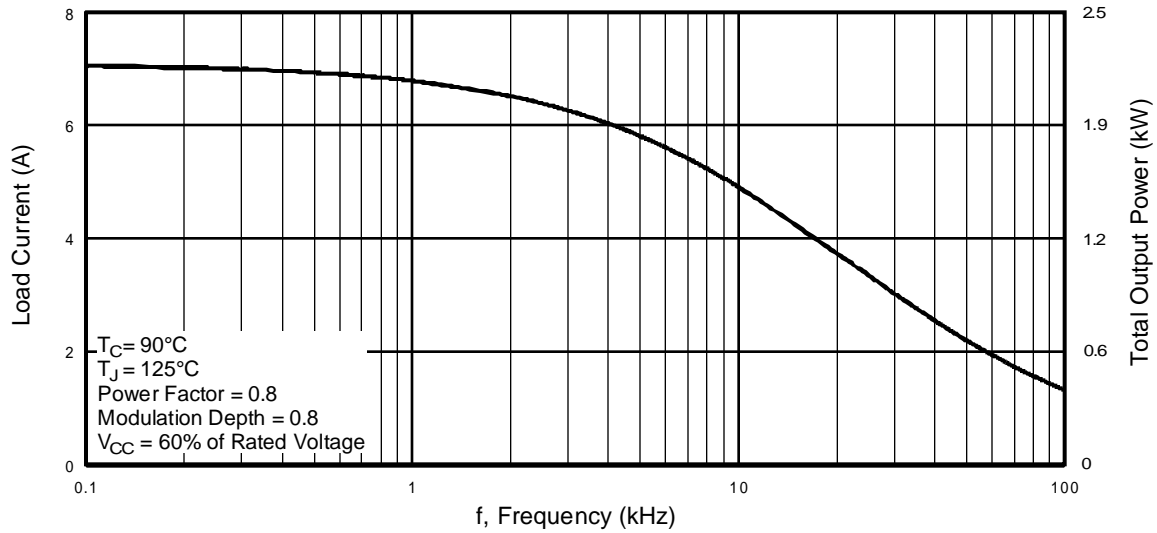

Fig. 1 - RMS Current and Output Power, Synthesized Sine Wave
See Fig. 1 for Current vs. Frequency curve
5.4 A_{RMS} per phase (1.7 kW total) with $T_C = 90^\circ C$, $T_J = 125^\circ C$, Supply Voltage 360Vdc, Power Factor 0.8, Modulation Depth 80% (See Figure 1)